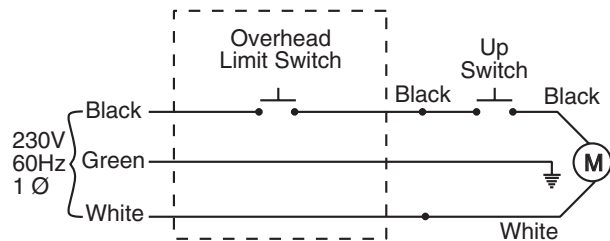

Fig. 25
15. Electrical (1Ø Only): Have a certified electrician run appropriate power supply to motor, Figs. 25 thru 27. Size wire for 20 amp circuit. See Motor Operating Data Table.
IMPORTANT: Use separate circuit for each power unit. Protect each circuit with time delay fuse or circuit breaker. For single phase 208-230V, use 20 amp fuse. Three phase 208-240V, use 20 amp fuse. For three phase 400V and above, use 10 amp fuse. For wiring see Figs. 25 thru 29. All wiring must comply with NEC and all local electrical codes.
16. Overhead switch: Check overhead switch assembly to assure that switch bar is depressing switch plunger sufficiently to actuate the switch. The overhead switch is wired normally open, see Figs. 25 thru 29. Lift will not operate until weight of switch bar is depressing switch plunger. Verify that Power Unit stops working when switch bar is raised, and re-starts when the bar is released.